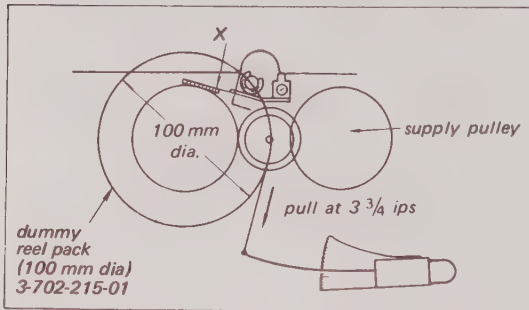

Fig. 5-20. Rewind back tension check
5. The reading on the spring scale should be 8-10 grams. See Fig. 5-20.
6. Bend the REW Back Tension Bracket at X in Fig. 5-20 to secure the correct reading.